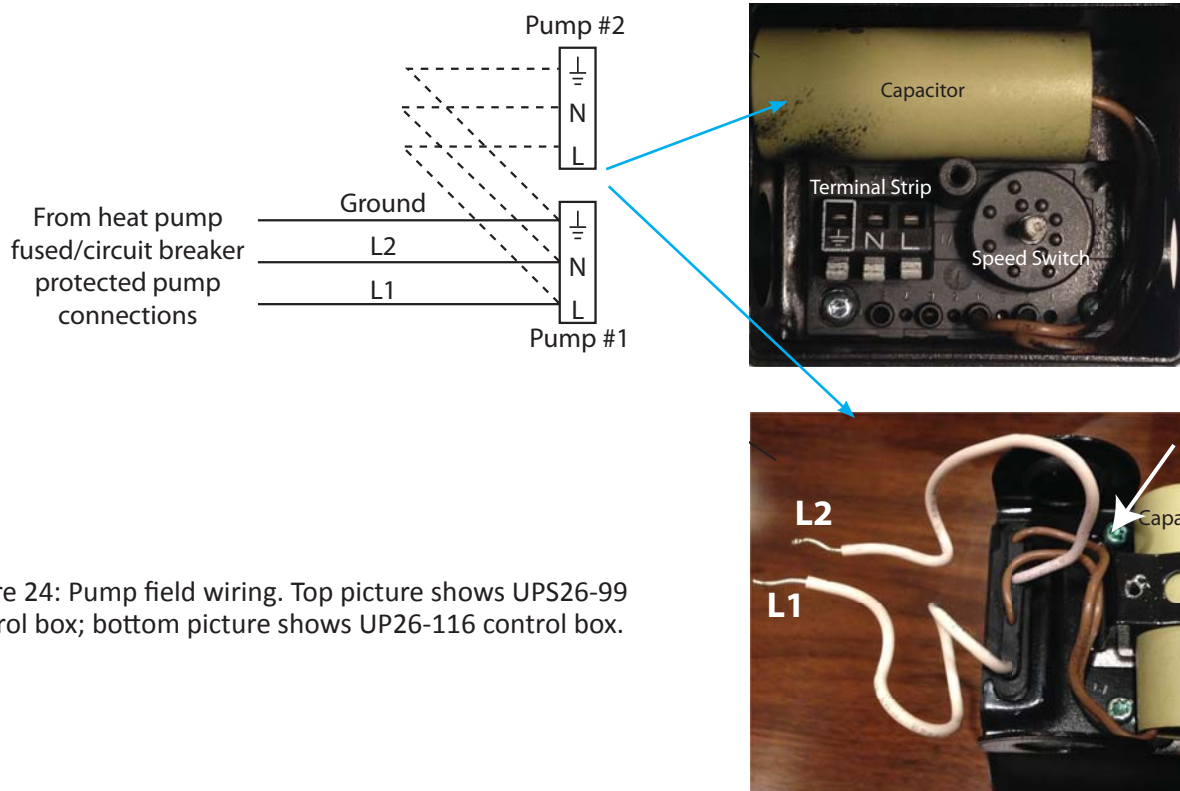

Figure 24: Pump field wiring. Top picture shows UPS26-99 control box; bottom picture shows UP26-116 control box.
1. Wire the circulator pumps to the heat pumps as shown in Figure 24. Follow all electrical and local codes for wiring and fuse/breaker sizing.